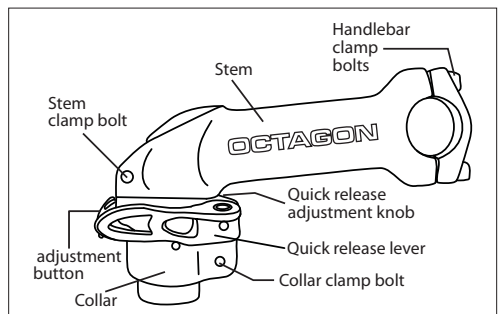

Fig. 26: Octagon® stem parts
- Octagon® Hand Height Adjustable Stem (Fig. 26)